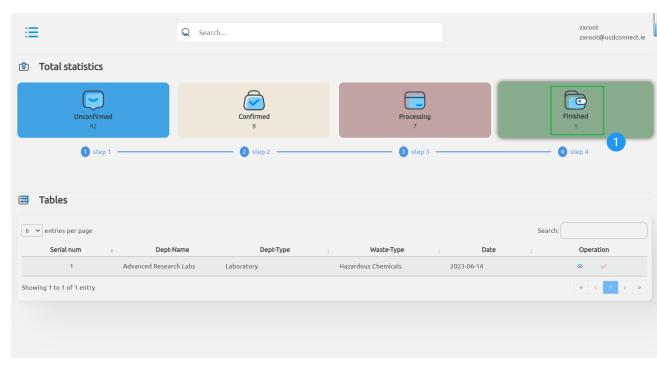

Figure 18: Finished table
- In **Figure 18**, you can see all “**Finished Orders**” and manage them. Click box[1] can switch to the finished table, it will show all finished orders and the finished date.